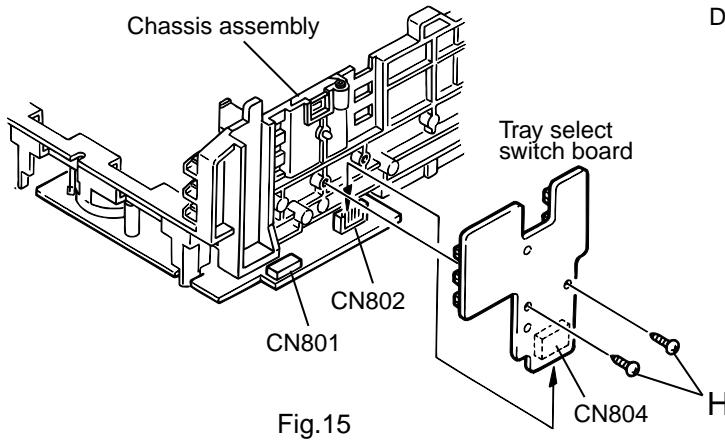

Fig.15
- Remove the two screws H retaining the tray select switch board(See Fig.15).
(See Fig.15 to 18 )
- While turning the cam gear r, align the pawl "s" position of the drive unit to the notch position(Fig.15) on the cam gear r.